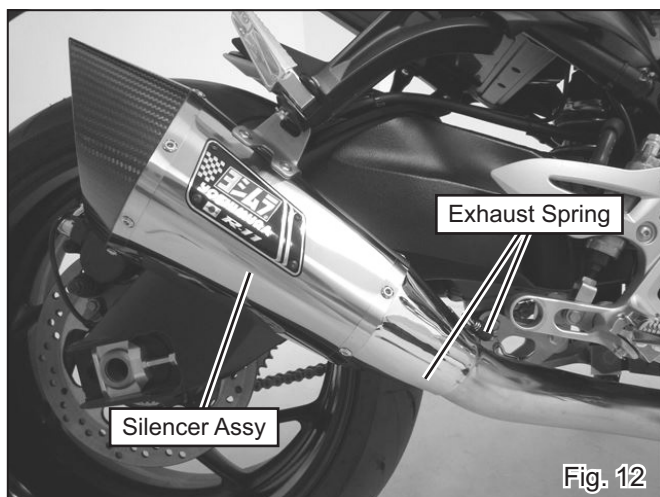

Fig. 12
- 14) Mount Silencer Assembly from Yoshimura R-11 Slip-on set on Tailpipe and install 2 of Exhaust Spring. (See Fig. 12)